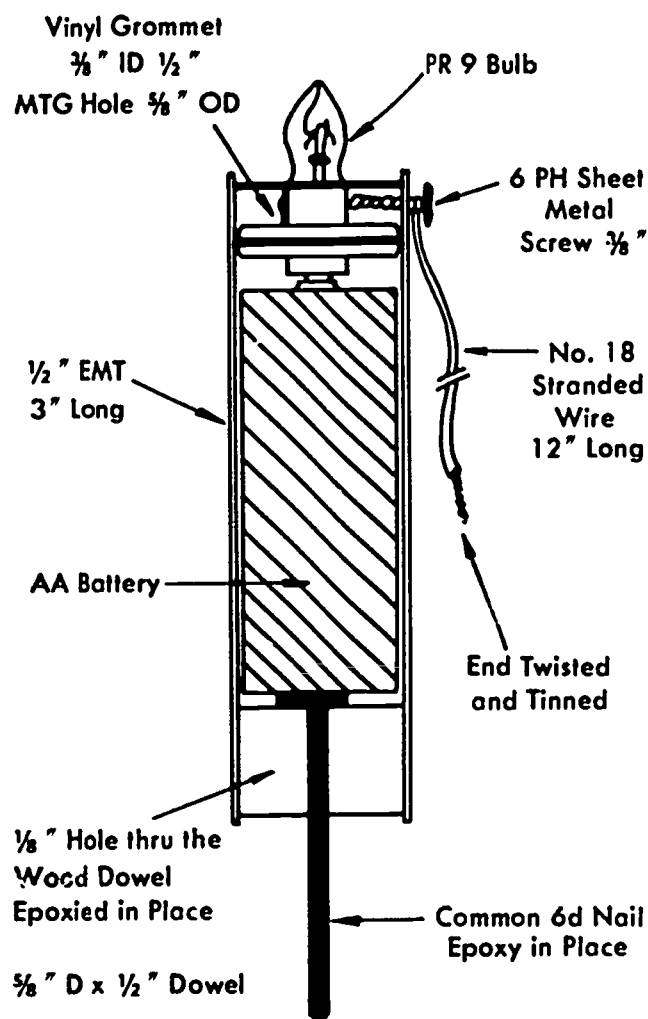

Fig. 136-1. Example of Internal Construction of a Continuity Tester
3. See the drawing of the continuity tester for help in assembling the kit. See Figs. 136-1 and 136-2.